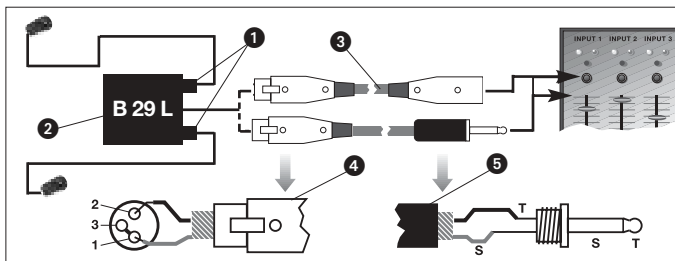

Fig. 3: Using the B 29 L to power the microphone.
- Refer to fig. 3. 1. **Connecting the cable:** Push the mini XLR connector (1) on the pickup cable into one of the two mini XLR sockets on the B 29 L (2) to the stop. The connector will lock automatically.
- Refer to fig. 3. 2. Connect the B 29 L (2) to the desired input.